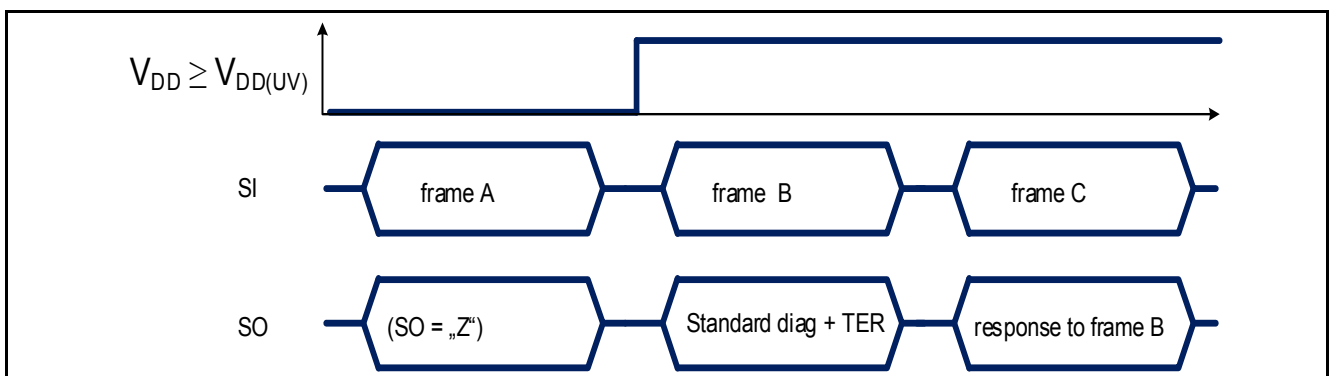

Figure 46 TLD5541-1 response after coming out of Power-On reset at V_{DD}
- when TLD5541-1 logic supply comes out of an Undervoltage reset condition ($V_{DD} < V_{DD(UV)}$) as shown in Figure 46 or $EN/INUVLO < V_{EN/INUVLOth}$